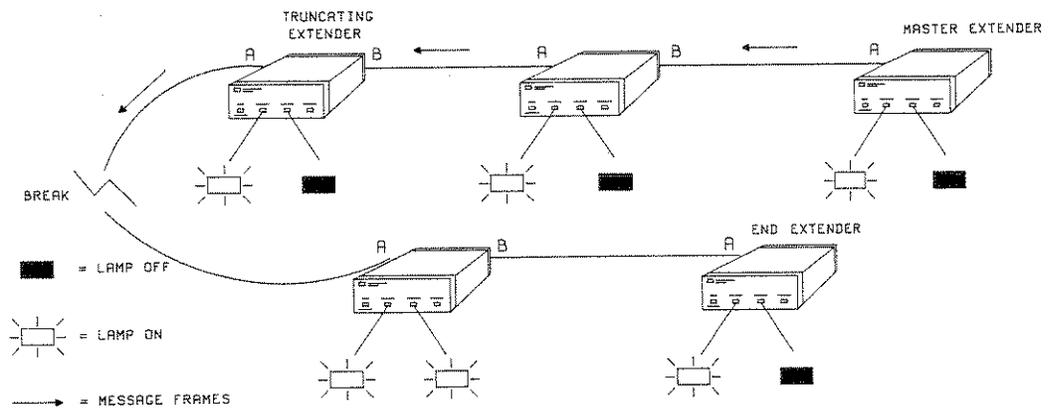

Figure G1-3 PORT FAULT Lamp Indications caused by a Continuous Failure
3. Refer to Figure G1-3. Working out in strict order from the master (which should have PORT A FAULT lamp on or flashing), check the status, on each Extender, of the port running back to the master.